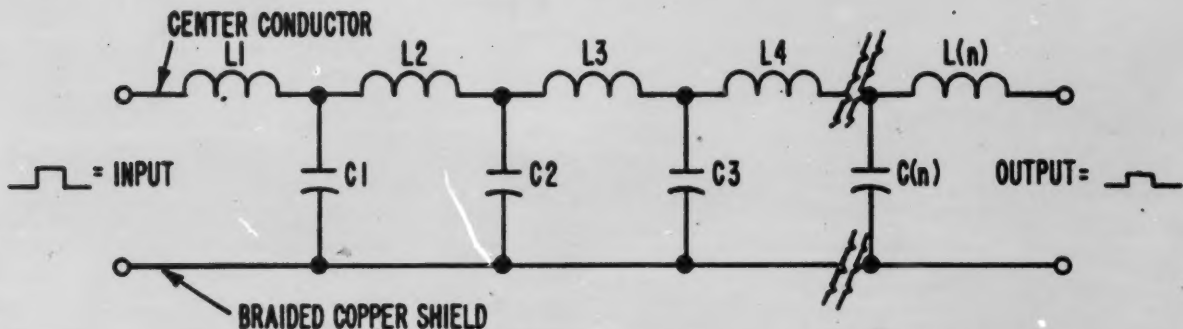

Figure 8
10. The time delay in coaxial cable can be explained by referring to the equivalent inductors and capacitors shown in Figure 8.
In Figure 8, L2 will (aid/oppose) the charge of C2, causing a time delay.